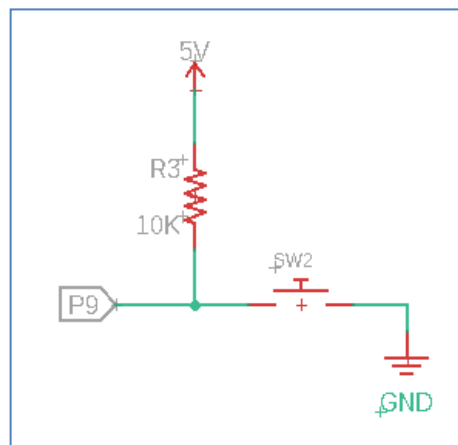

Figure 5: Schematic for the pushbutton
9. Next we will replace the switch with a pushbutton. Assemble the circuit in Figure 5 using a pushbutton.